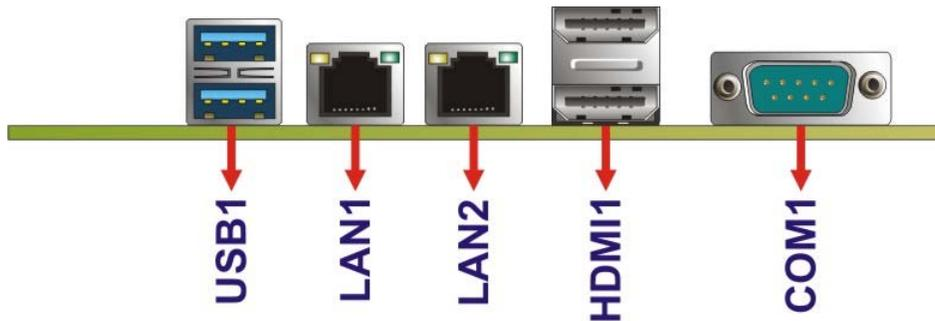

Figure 3-24: External Peripheral Interface Connector
Figure 3-24 shows the WAFER-BW external peripheral interface connector (EPIC) panel. The EPIC panel consists of the following:
- CN Location:** See Figure 3-24
- CN Location:** See **Figure 3-24**